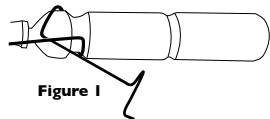

Figure 1
- Insert the battery into the front loop of the battery wire connector while leaving the end loop hanging outside (i.e. let the front loop open to allow the battery to pass through). (Figure 1)
- Unhook the end loop of the battery wire connector to allow the first loop to open as figure 1 above.